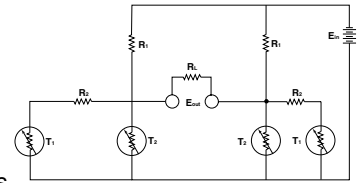

Figure 2
- Connect two linear networks (#44203) as shown in Fig. 2.